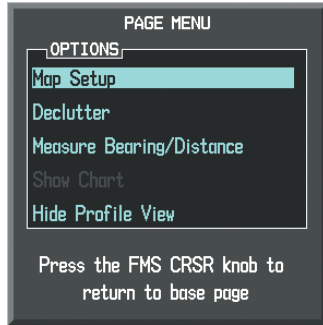

Figure 6-168 Navigation Map Page Menu
- 3) With Map Setup highlighted, press the **ENT** Key (Figure 6-168).